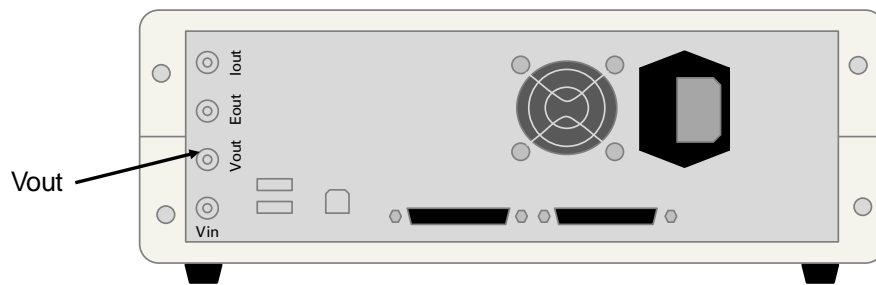

Figure 15 – The Vout located on the back plane of the μ Autolab type II/III is used to control the Autolab Motor Controller
- Vout output located on the back plane of the μ Autolab type II and III (see Figure 15).